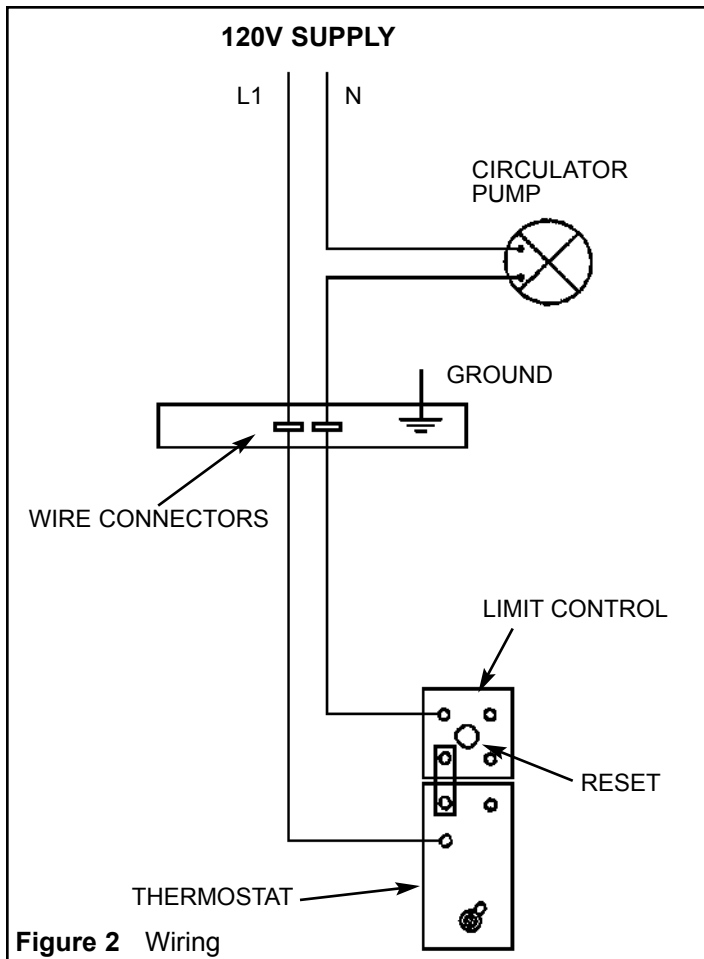

Figure 2 Wiring
2. Connect wiring to circulator pump as shown in Figure 2. A No. 14 AWG Type TEW 105°C wire was installed in this heater. If wire has to be replaced in the field, use only type TEW 105°C wire.